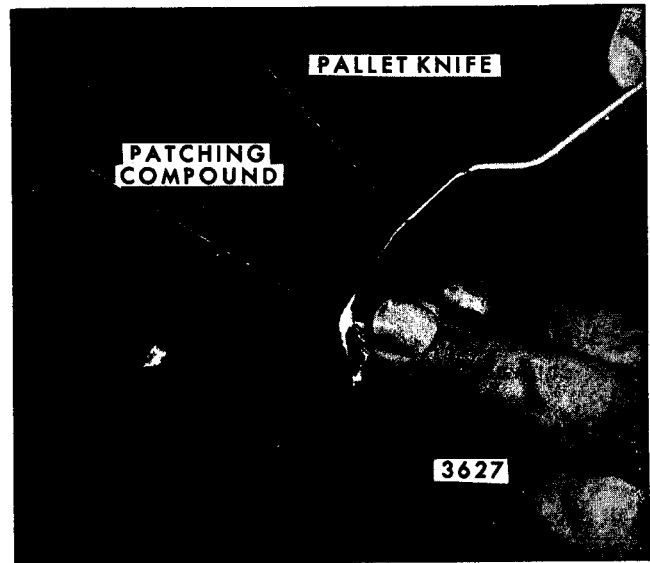
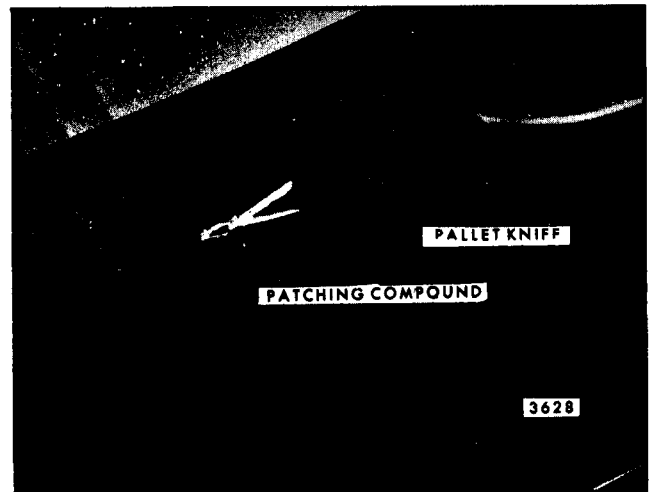

Fig. 11-17-Vinyl Repair Patching Compound Application
Fig. 11-18-Vinyl Repair Patching Compound Application
3. On damaged areas where no trimming was necessary, apply vinyl patching compound to edges of area as shown in Fig. 11-17). Where trimming was required, apply compound to area being repaired and trowel flush with adjacent surface as shown in Fig. 11-18. Remove any excess material (compound) with clean cloth.